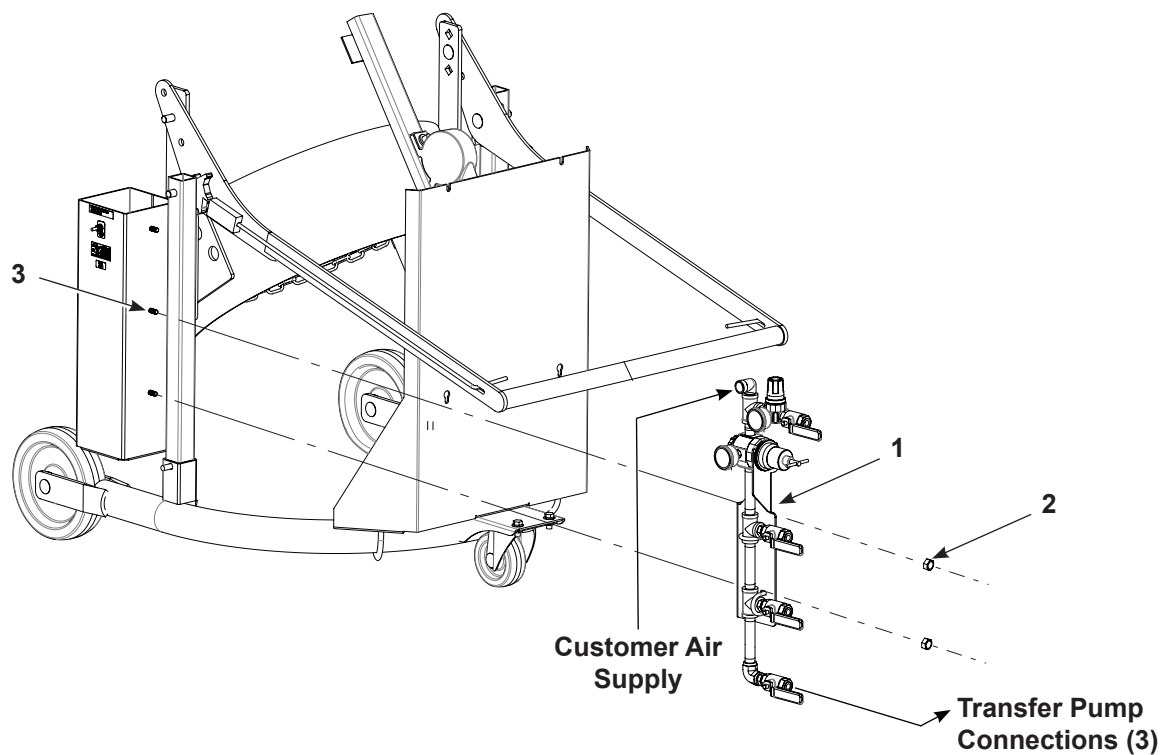

Figure 3 Installing the Transfer Pump Manifold
1. See Figure 3. Install the transfer pump manifold (1) to the studs (3) on the drum dolly using the washers and nuts (2). Tighten the nuts to 13 ft-lb (18 N•m).